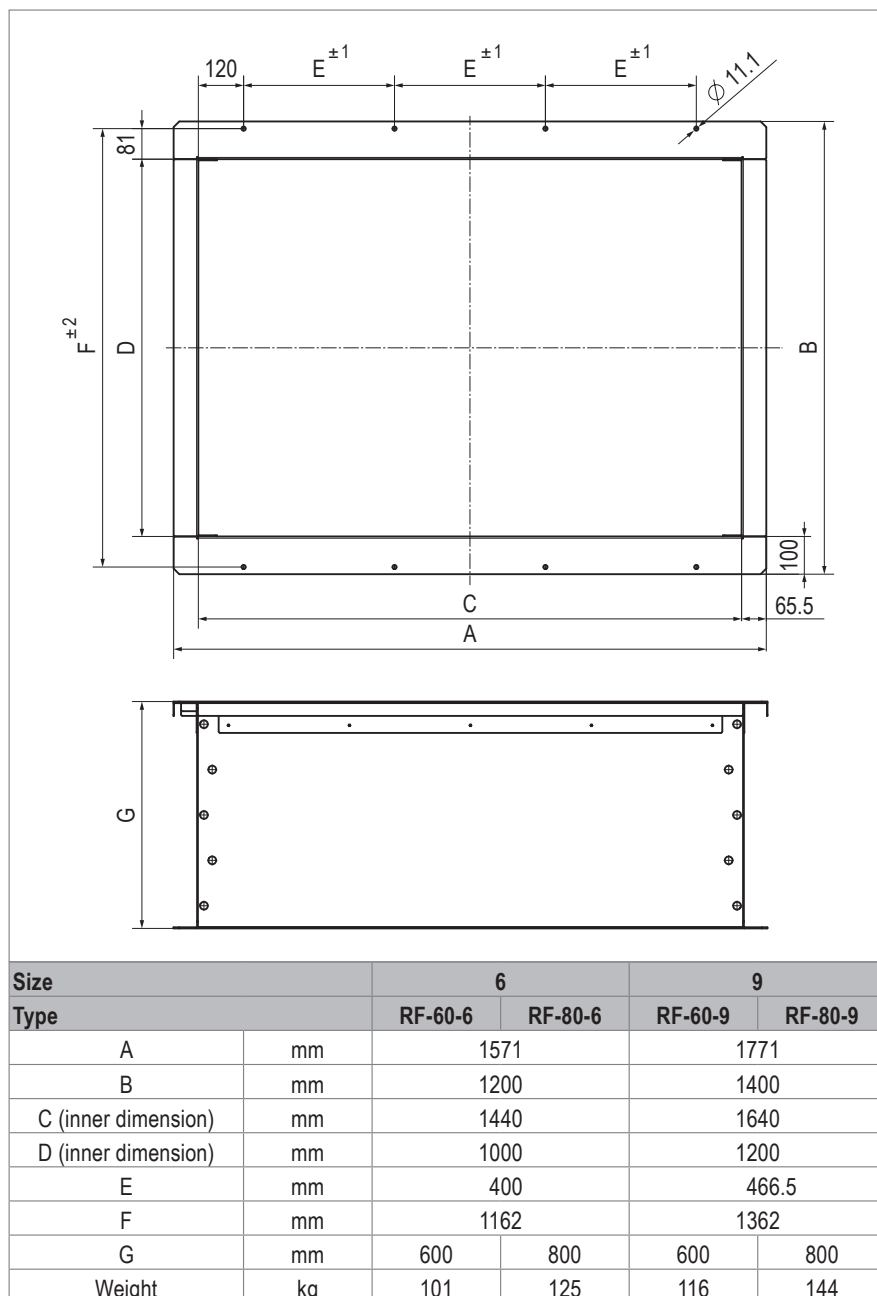

Fig. H14: Roof frame dimensions and weights
- The supporting surface must correspond to the specifications in Fig. H14 on page 128.